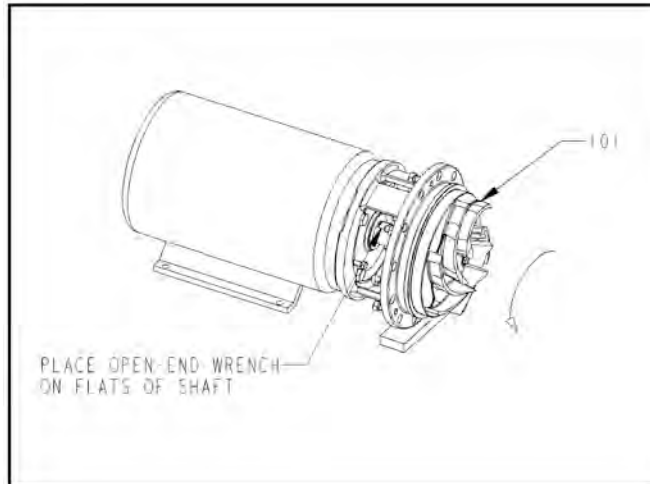

Figure 31:
3. Slide wrench over the shaft at location of flats (Fig. 31).